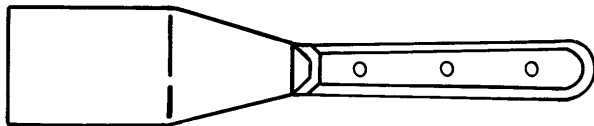

Figure 4-52. Putty Knife
(3) Putty knife. A putty knife is used for applying putty compound, sealant and for scraping gasket material. The blade has a wide square point and is available in different lengths and widths. A typical putty knife is shown in figure 4-52.